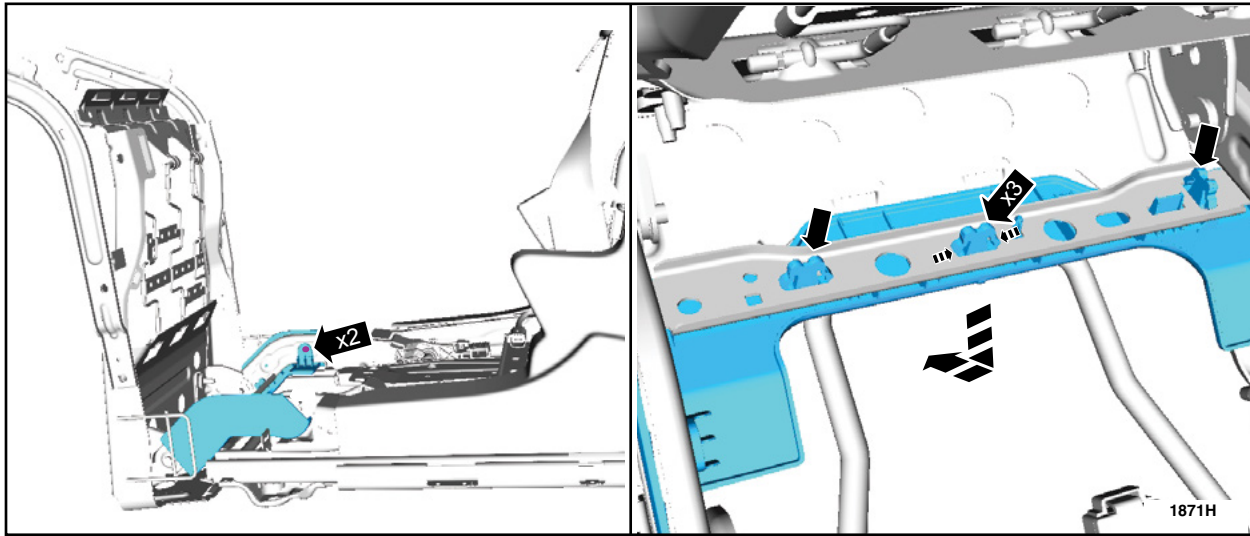

FIGURE 9
9. Remove the retainers and the front crossbar frame panel. See Figure 9.